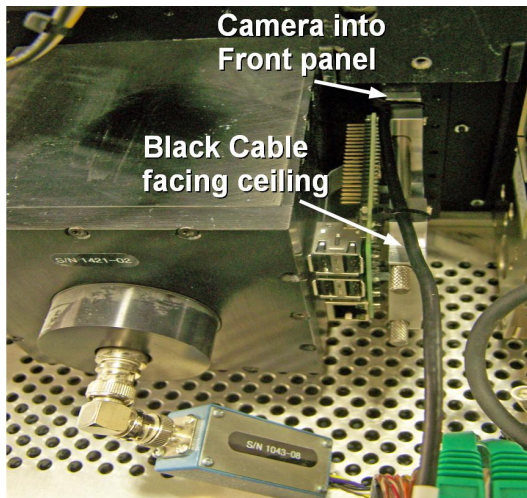

Figure 2a: Installation of *OmniVision Camera Assembly*.
- Disconnect the current *Camera* from behind the *Front Panel* using the thumbscrews (that are attached to the *Camera*). Install the updated *OmniVision Camera Assembly (865340)* into the same location, orienting it so that black cable is closest to the ceiling and the *Sensor* is facing the lens hole in the *Optics Slide* (Figures 2a and 2b).